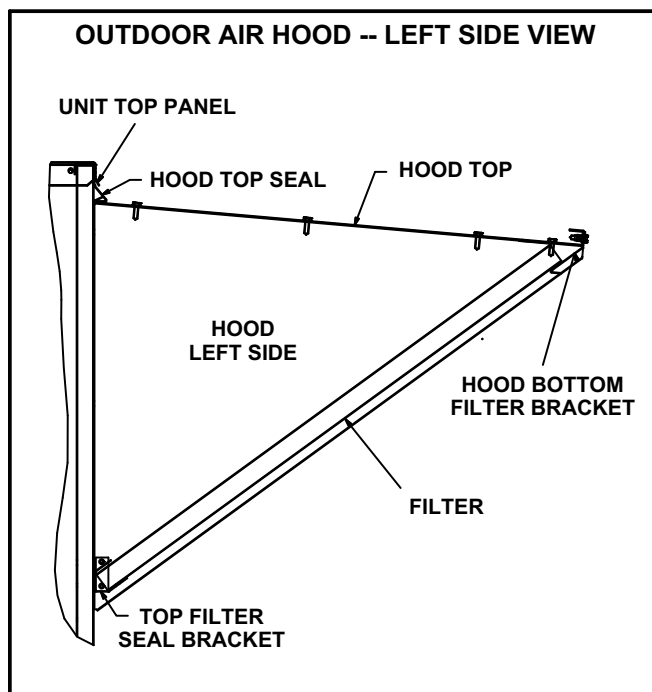

FIGURE 23
- 4 - Secure hood left side to the hood top and to the unit cabinet using the provided screws. See figure 23.